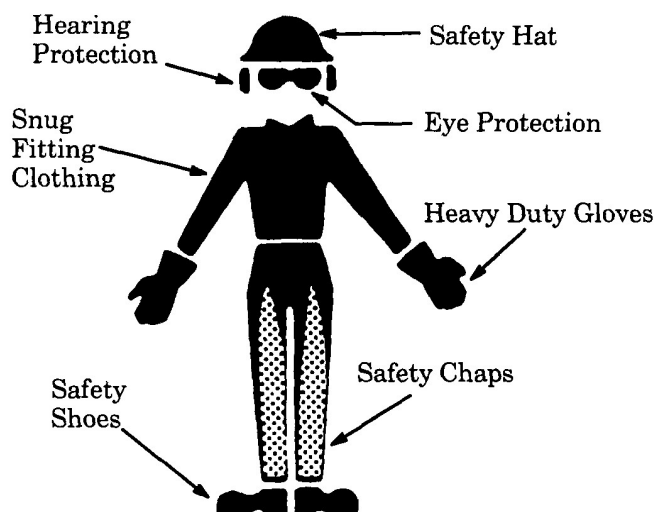

Figure 4
1. **Wear protective gear.** Figure 4. Always use steel-toed safety footwear with non-slip soles; snug-fitting clothing; heavy-duty, non-slip gloves; eye protection such as non-fogging, vented goggles or face screen; an approved safety hard hat; and sound barriers—ear plugs or mufflers to protect your hearing. Regular users should have hearing checked regularly as chain saw noise can damage hearing.